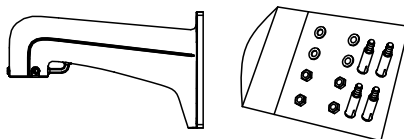

Figure 2-4 Wall Mounting Bracket
- The bracket in Figure 2-4 is the recommended bracket for this series of speed dome, and a pendent adapter is required if any other bracket is selected. The dimension of pendant adapter is $G1\frac{1}{2}$.
- 1) Get the bracket and screws from the packing box as shown in Figure 2-4.
- The bracket in Figure 2-4 is the recommended bracket for this series of speed dome, and a pendant adapter is required if any other bracket is selected. The dimension of pendant adapter is $G1\frac{1}{2}$.